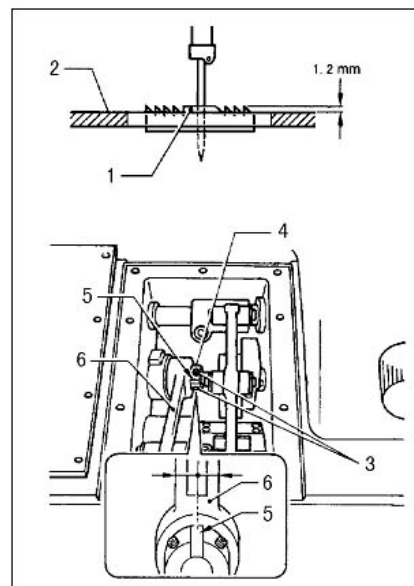

Fig.29
### (2) Vertical feed direction (shown by Fig.29)